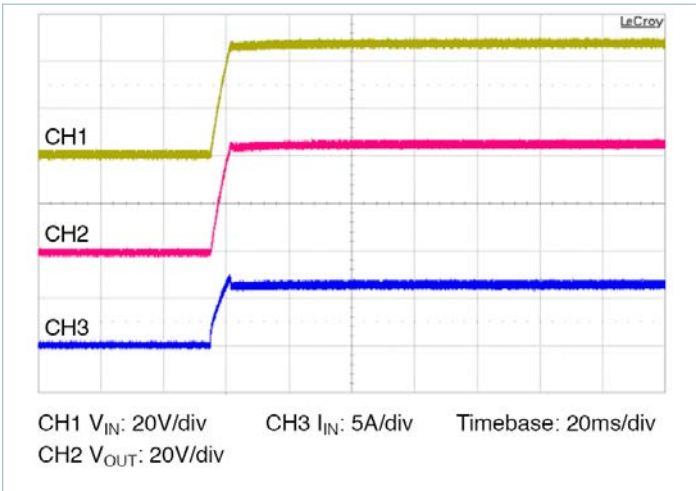

Figure 13 — Start up from application of V_{IN}; VC pre-applied C_{OUT} = 100µF
- **Normal operation (VC applied prior to V_{IN}):** In this case the controller is active prior to ramping the input. When the input voltage is applied, the VTM module output voltage will track the input (See Figure 13). The inrush current is determined by the input voltage rate of rise and output capacitance. If the VC voltage is removed prior to the input reaching 26V, the VTM may shut down.